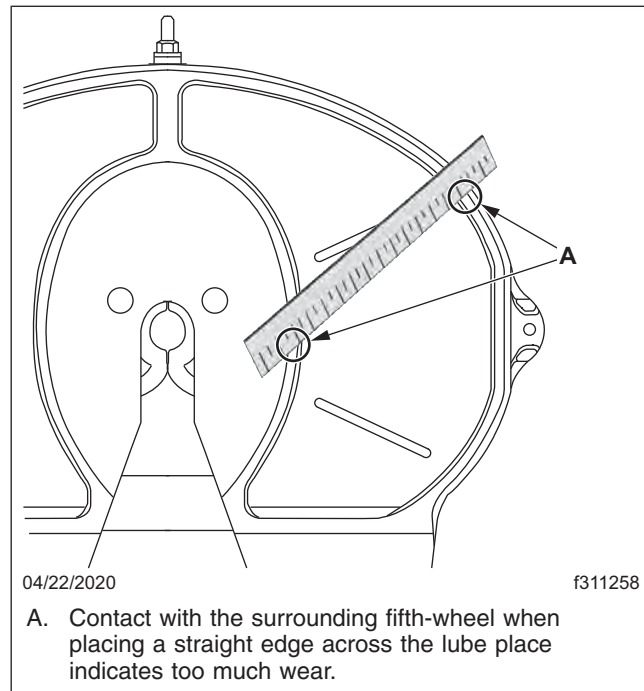

Fig. 17.1, No-Lube Plate Wear Inspection
- A straight edge laid across the lube plate contacts parts of the surrounding fifth wheel as shown Fig. 17.1.